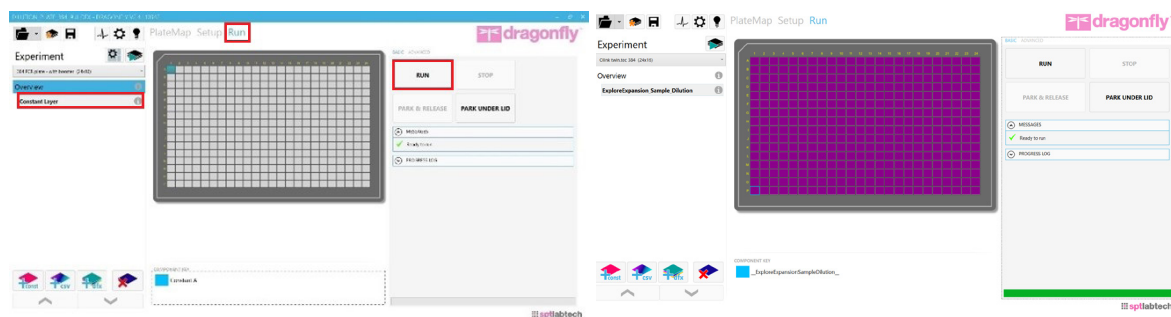

Figure 25. Run tab and Run button (left). Filled Plate (right).
5. Select the *Run* tab in the *Constant layer* view of the software (*Figure 25*), then click *RUN* to start the program.